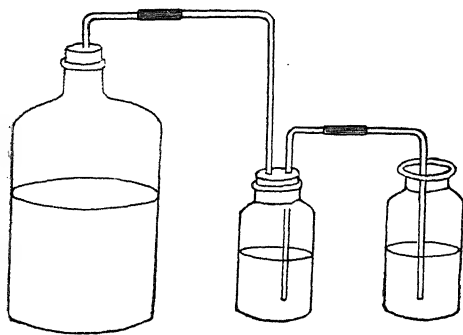

Fig. 74
**Apparatus.** Acid bottle, capacity about  $2\frac{1}{2}$  liters; two wide-mouthed bottles, capacity about 500 c. c.; stoppers and tubes as shown in figure; test tube; boiling flask, 250 c. c.; U-tube, 6"; battery jar, 5" high; stoppers and tubes as shown in figure 74; thermometer; watch glass; beaker, 100 c. c.; ring stand with 1 ring and a small clamp; Bunsen burner; wire gauze with asbestos center.